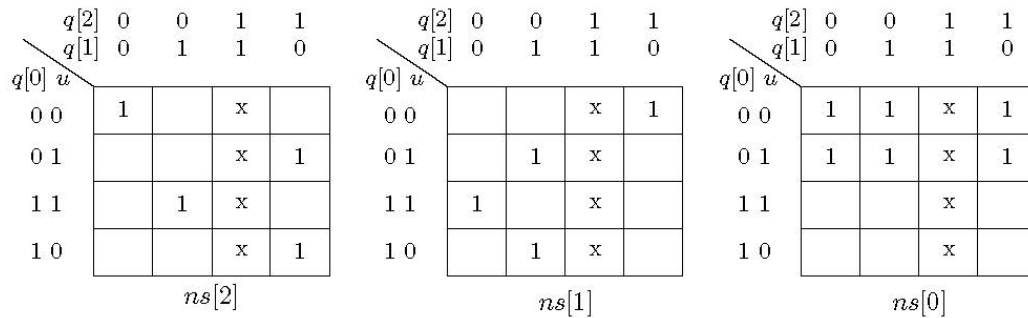
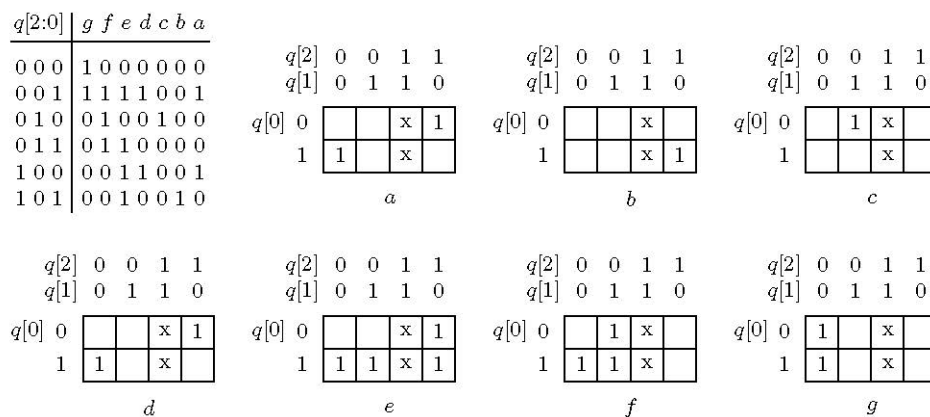

Figure 4 Karnaugh map for next state of the counter
Figure 5 Karnaugh map for the output function of the counter
6. **For students who took this class as an (honor option).** Figure 4 shows the Karnaugh maps for each of the next state signals. From the Karnaugh maps, you can get the expressions of the next state signals. Figure 5 shows the truth table and Karnaugh maps of the output signals. You can get the expressions of the output signals from the Karnaugh maps.